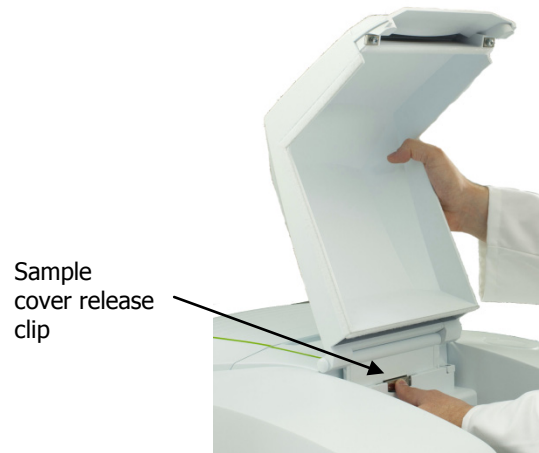

Figure 5 Removing the sample area cover
1. Remove the sample area cover if fitted by opening the cover, pressing the clip and pulling the cover vertically to remove (Figure 5).